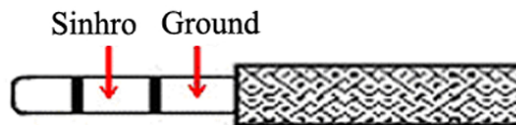

Fig.3. The polarity of jackplug of cable for synchronization.
2. With the help of the synchronization cable connect the amplifier AMT-07M (jack “SYNCRO” (6)) with the LED driver (for example with D-31 or DLT-37). Figure 3.